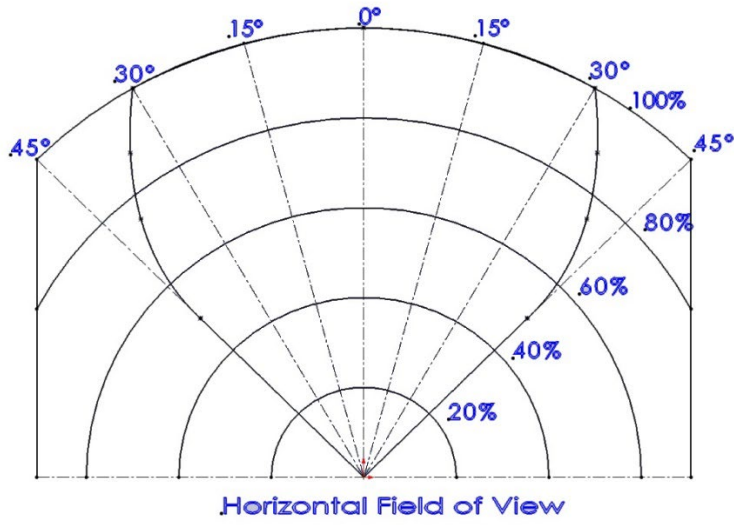
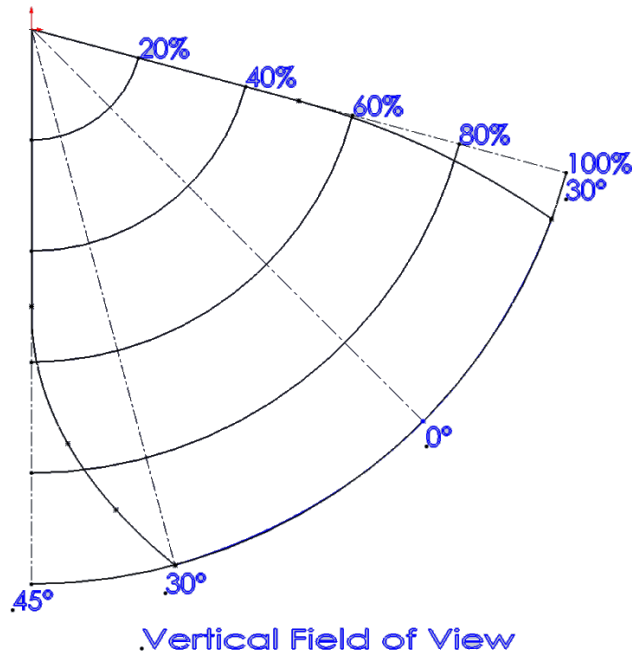

FIGURE 9 - HORIZONTAL FIELD OF VIEW
FIGURE 10 - VERTICAL FIELD OF VIEW
| Figure 9 - Horizontal Field of View..... | 8 |
| Figure 10 - Vertical Field of View | 8 |
- The field of view of the detectors (See Figure 9 and Figure 10)